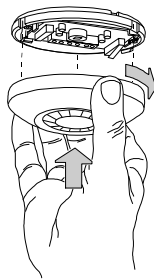

Figure 3 – Installing the Cover
- D. Mount the base (equipped with the printed circuit board) in the location selected for optimum coverage. Using the two mounting holes at the back of the base fasten the unit firmly to the mounting surface to avoid possible vibrations. (Figure 3).